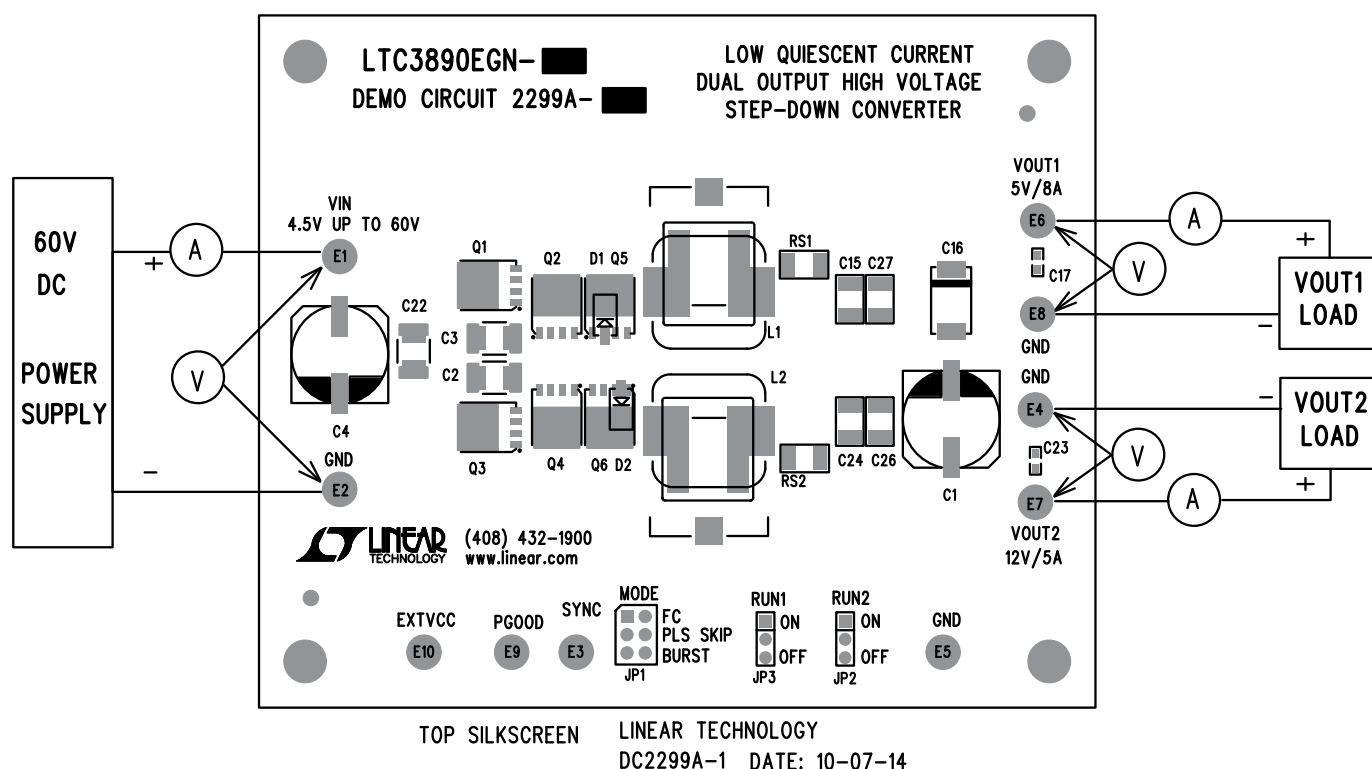

Figure 1. Proper Measurement Equipment Setup
Demonstration circuit 2299A is easy to set up to evaluate the performance of the LTC3890. For proper measurement equipment configuration, set up the circuit according to the diagram in Figure 1. Before proceeding to test, insert shunts into JP3 and JP2 (RUN1, 2) into the OFF position, which connects the RUN pins to ground (GND), and thus, shuts down the outputs. Set jumper JP1 (MODE) into FCM (Forced Current Mode) position.
1. With the DC2299A set up according to the proper measurement and equipment in Figure 1, apply 20V at V_{IN} . Measure V_{OUT} ; it should read 0V. If desired, one can measure the shutdown supply current at this point. The supply current will be approximately 50 μ A, or less, in shutdown.